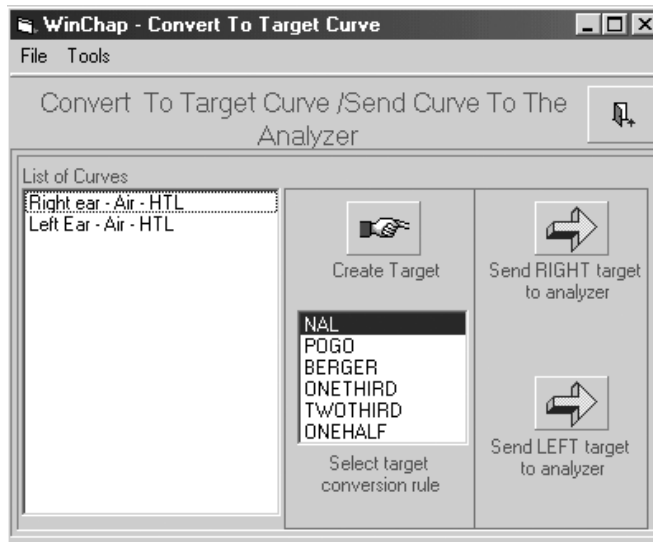

Figure 5.5.1—Creating a target
1. Click on the **Target** button. A new window will open (Figure 5.5.1).